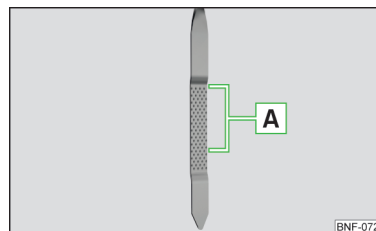

Fig. 109
Dipstick » Fig. 109
- The oil level must never be above the range **A** » Fig. 109 - risk of damage to the motor as well as the exhaust system.